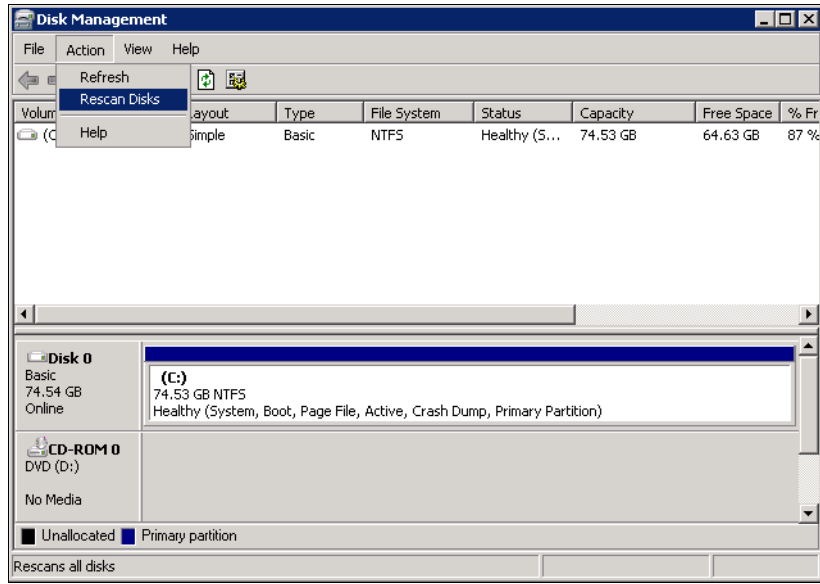

Figure 7-7 Windows Server 2008 R2: Rescan disks
3. Select **Action** → **Rescan Disks**, as shown in Figure 7-7 on page 287.